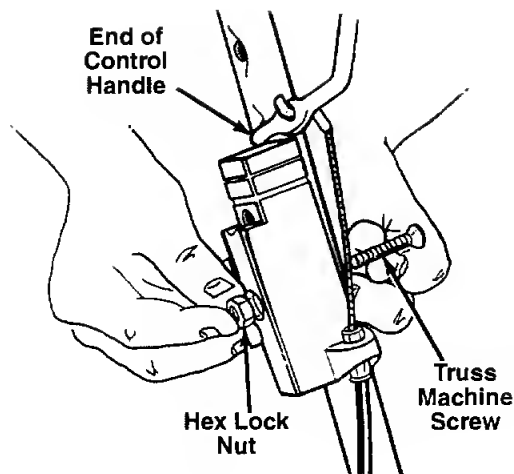

FIGURE 8.
5. Place the control box on the upper handle just below (touching) the end of the control handle as shown in figure 8. Secure with hardware removed in step one by placing hex lock nut into the indent on the inside of the control box. Screw the truss machine screw into the hex lock nut.